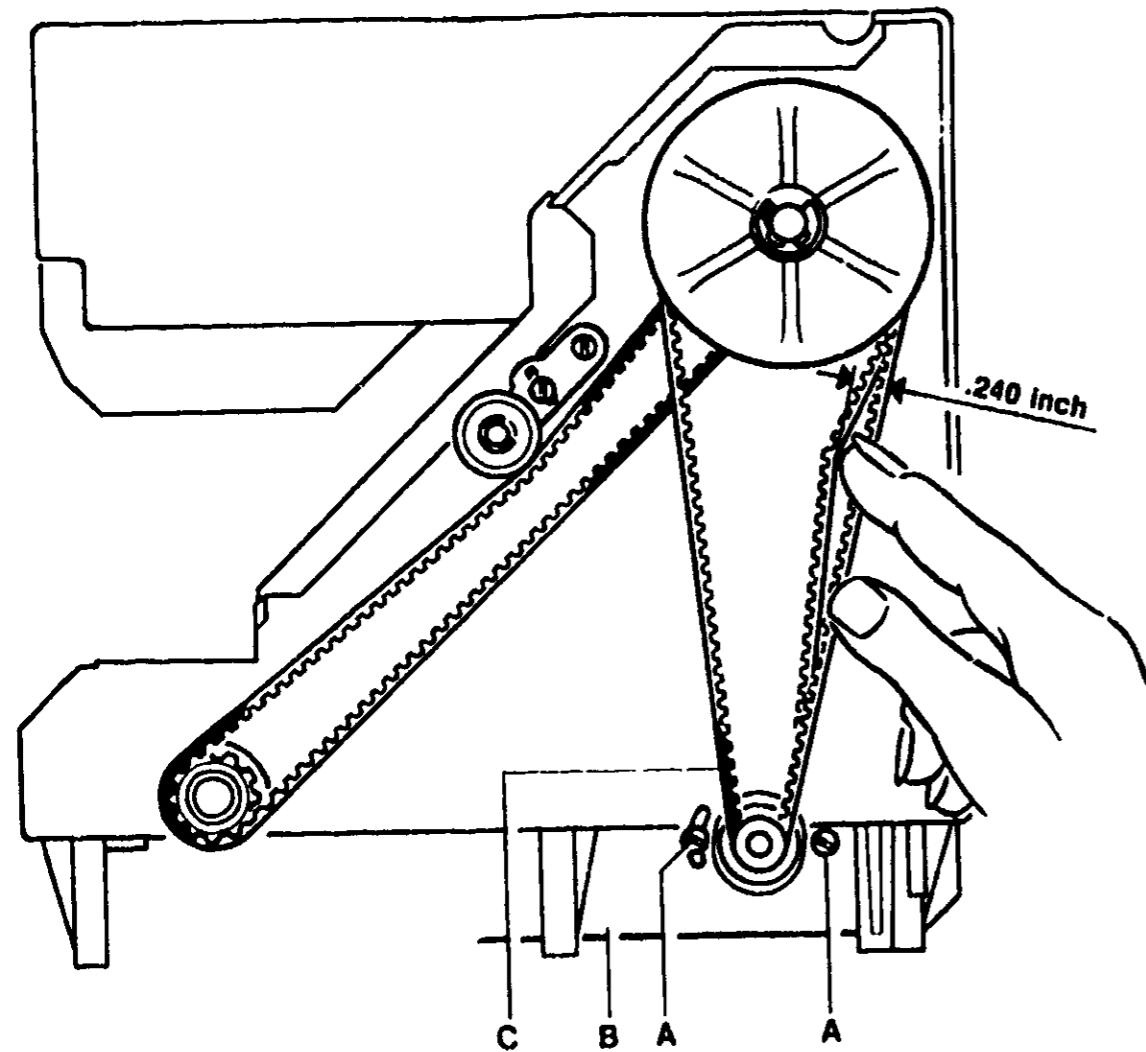

FIGURE 65
Check belt tension. Proper adjustment will allow the belt to be pushed inward for about .240 inch (6 mm) with light finger pressure (Figure 65). If tension is incorrect, loosen screws (A) and move motor unit (B) upward or downward.